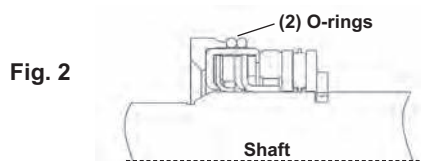

Fig. 2
8. Assemble two o-rings on the outside body of the new seal cartridge assembly as shown in Fig 2. Install o-rings one at a time and do not roll over each other.